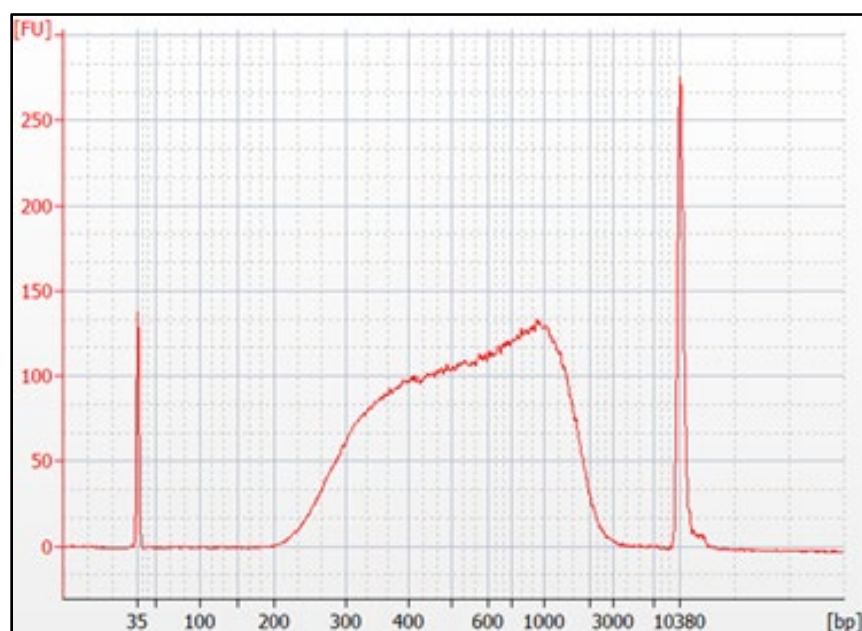

Figure 21. An electropherogram example from a library prepared from K-562 nuclei and quantified using the Agilent 2100 Bioanalyzer.
4. Use the Bioanalyzer results to determine library quality and average size. See Figure 21, below, for an example of a typical Bioanalyzer profile for an NGS library that has been successfully purified and size selected.